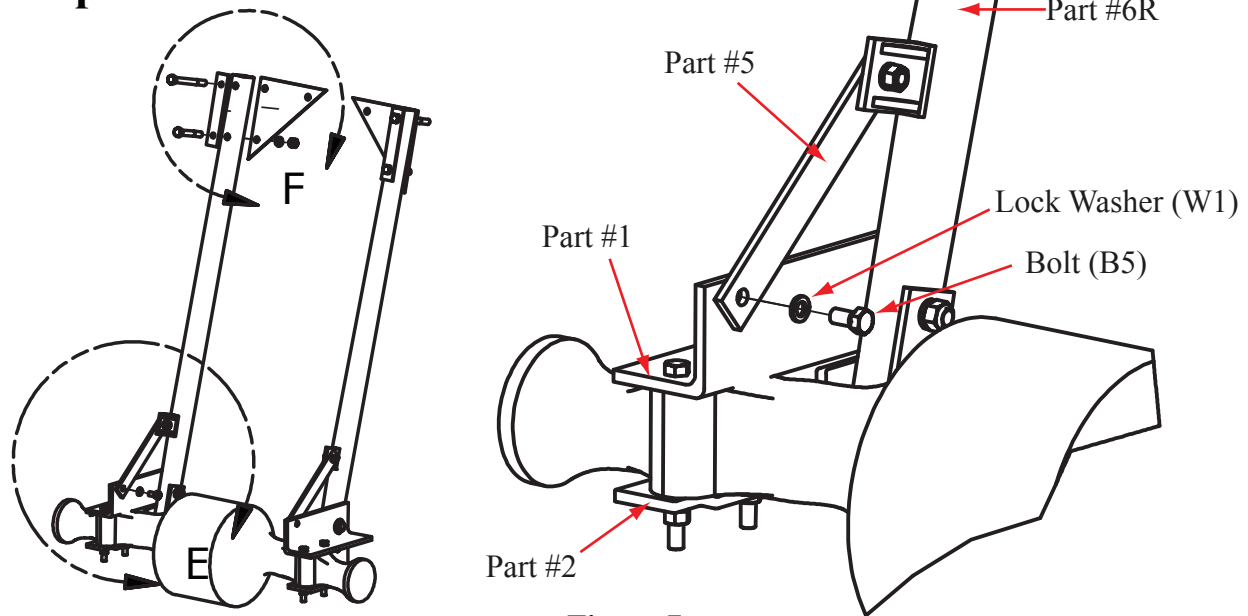

Figure 7
Step 14. Bolt vertical tube bolted brace (#5) to the top right axle bracket (#1) with bolt (B5) and lock washer (W1). Tighten to a snug fit. (Figure 7)